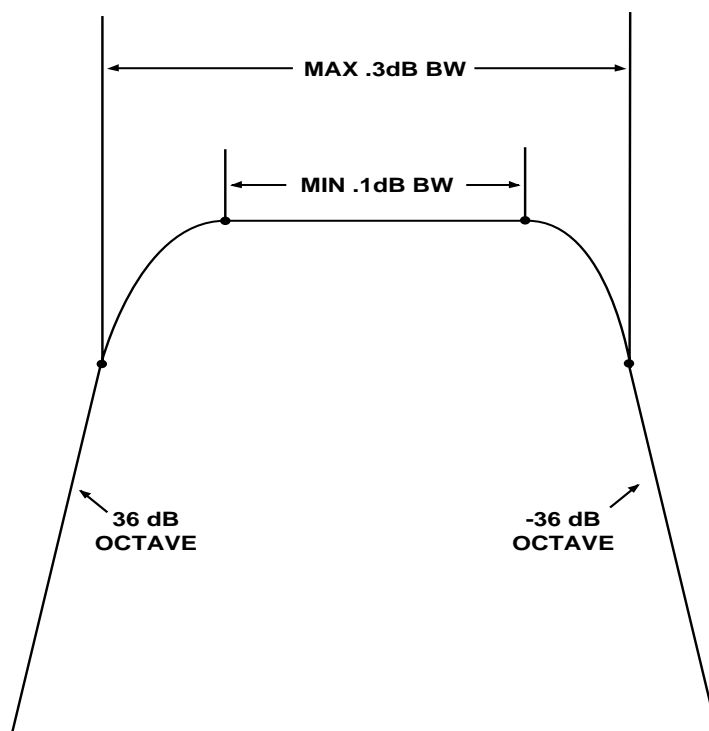

Figure B-2
- Specified at the .1 dB and 3 dB points with 36 dB octave roll-off (see Table B-2 and Figure B-2).